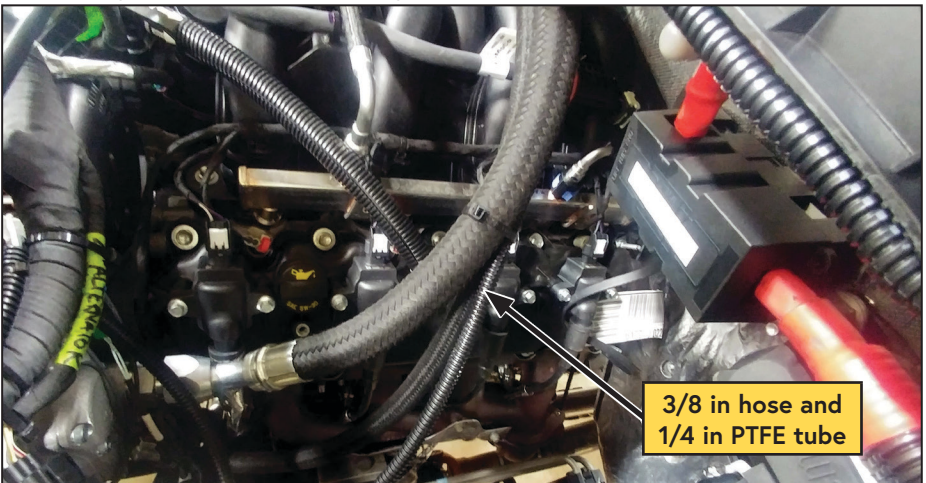

Figure 21 — Route hoses
- Route the 3/4 in hose toward the firewall and up, over the engine to the passenger side of the vehicle (Figure 21).
- Route the 3/8 in hose and 1/4 in PTFE tube toward the firewall, following the same route as the 3/4 in hose. Using the supplied cable ties, secure the hose and tube bundle to the 3/4 in hose (Figure 21).